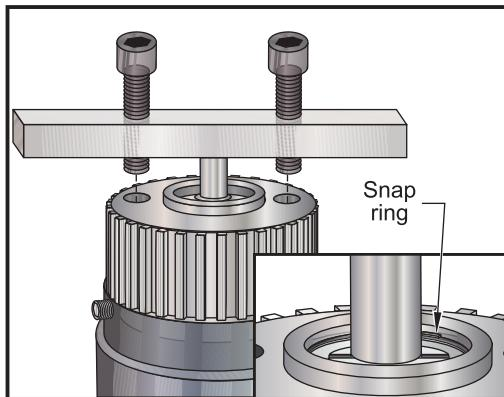

Figure 3.5-1. Retaining ring removal.
2. Place the aluminum bar on top of the draw bar and screw the two SHCS bolts into the top of the spindle pulley. See Figure 3.5-1 below.
4. Place the aluminum bar on top of the draw bar and screw the two SHCS bolts into the top of the spindle pulley. See Figure 3.5-1. Tighten the SHCS until the draw bar is compressed enough to install the retaining ring.